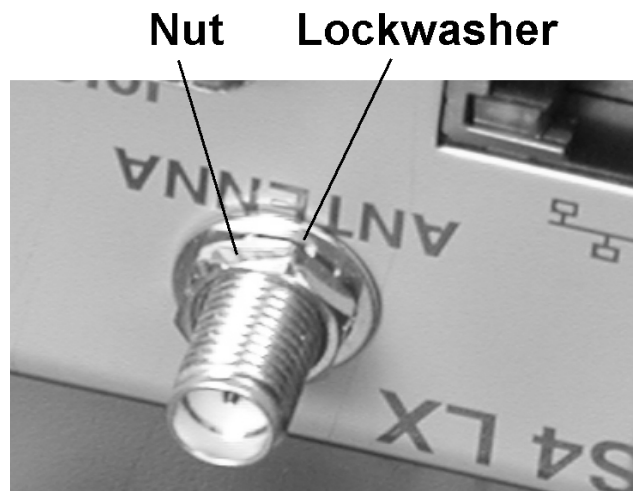

Figure 3-15: Mounting the Antenna Connector to the IO Panel
2. Attach the antenna connector to the IO Panel. Use the nut and lock washer shown in Figure 3-15. Fasten securely.